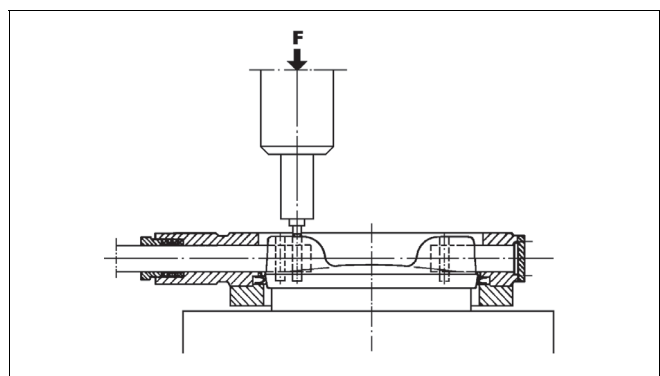

Fig. 17 Pressing the pins
- Support the disc well in a horizontal position during mounting of the pins. Push the new pins into the holes and press them in a press to final form (see Fig. 17). Use a smaller tool than the pin diameter. See Table 6 for force needed.
- Install the gasket (18) and the blind flange (10). Screws of the blind flange must be tightened evenly, see Table 7. An unevenly tightened flange will damage the seat.